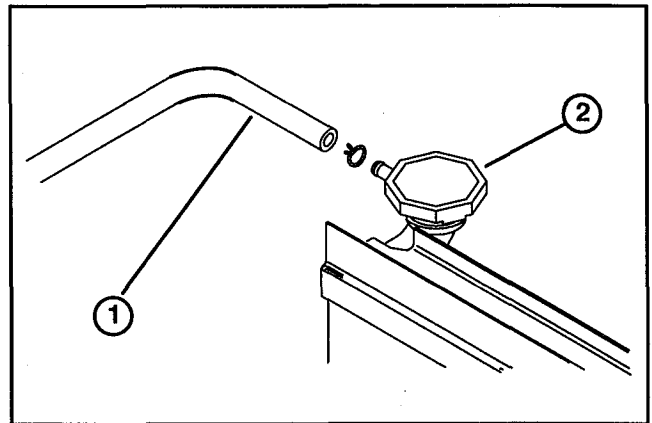

Figure 2
6. Loosen hose clamp securing overflow tube to radiator and slide tube off radiator opening (Fig. 2). Plug overflow tube to prevent coolant from escaping.